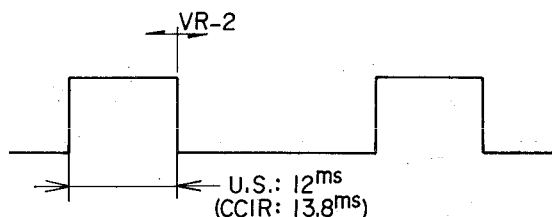

Fig. 5
- (3) Connect Oscilloscope to Test Point TP-2. Adjust VR-2 (50 k Ω B) to obtain waveform as shown in Fig. 5.